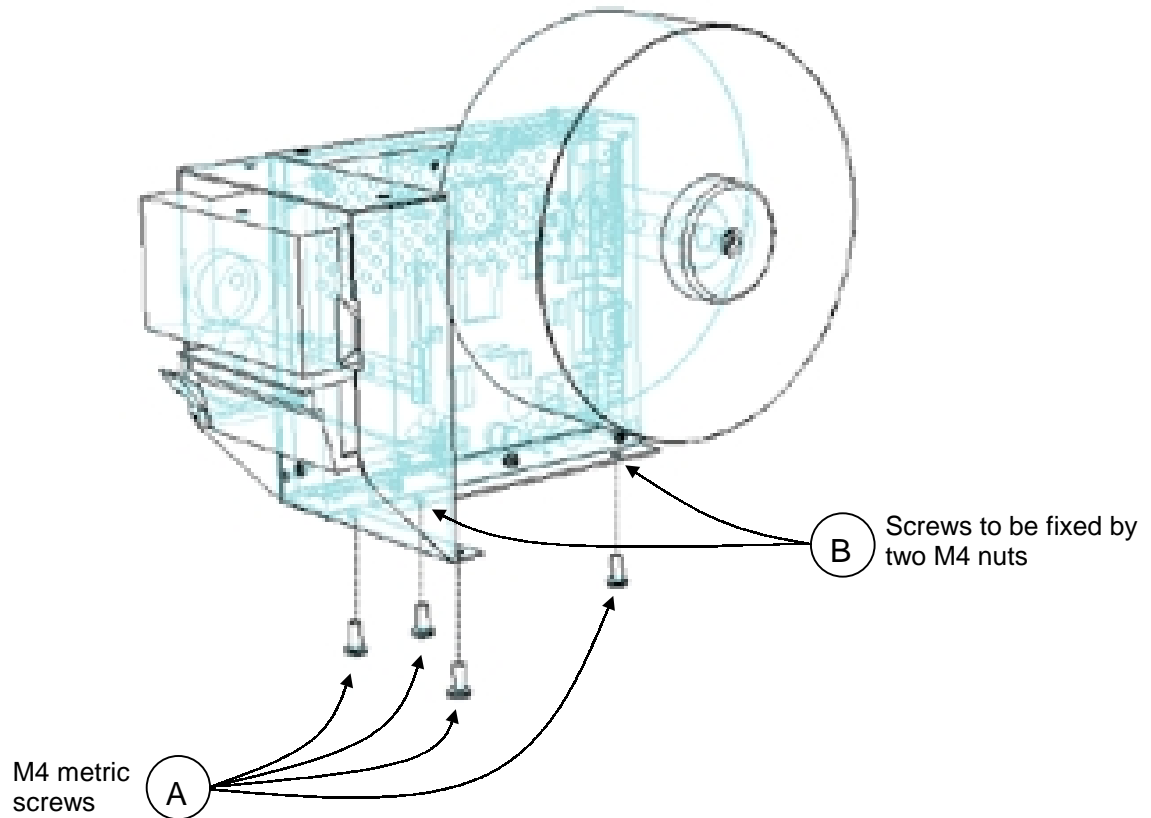

Fig. 2.2- Fixing the TK41B.
- Fix the TK41B to the chassis by screwing putting four screws (M4 / L10 mm) through the holes marked with A in **Fig. 2.2- Fixing the TK41B**.